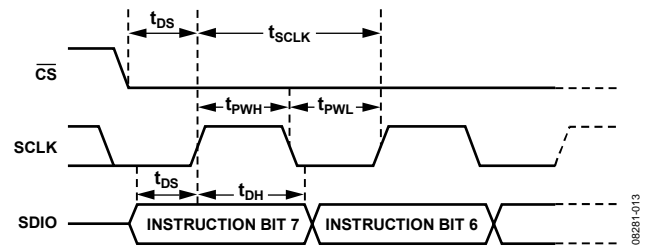

Figure 20. Timing Diagram for Serial Port Register Write
2. 4x interpolation: It is accomplished using HB1 and HB2 (Register 0x00F). Note that it is not possible to use HB3 when in 4x interpolation mode. Figure 20 shows the frequency response for this case. The usable bandwidth is  $0.2 \times F_{dac}$  or  $0.8 \times F_{data}$ .